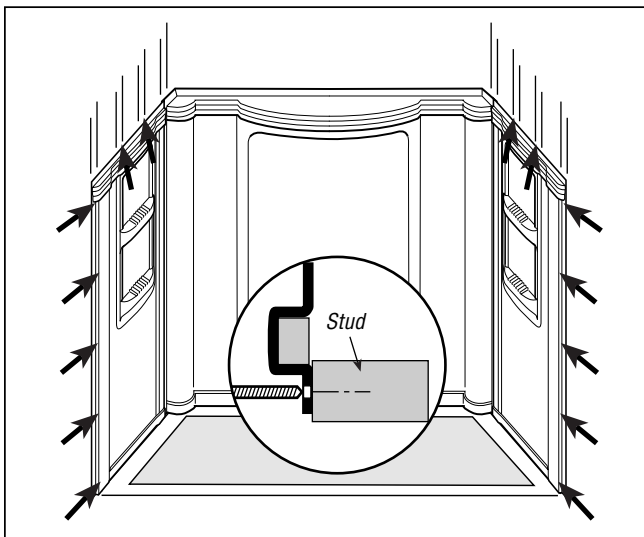

Figure 5
- 6** Apply a bead of adhesive down each stud that will come in contact with the side panels. Install each side panel by laying a bead of latex/acrylic caulk along flange with holes (i.e., the flange that connects to back panel). Slide panel over fasteners. Press each panel firmly to ensure proper adhesion to studs. Locate and drill a 3/16" hole in the center of the nailing flange at the top of the panel and centered on each stud. Also drill 3/16" holes in the front nailing flange on each side panel at approx. 12" intervals, centered on the flange (Figure 5). Hammer 3/4" galvanized roofing nails through each hole and into the studs, securing the wall panel.